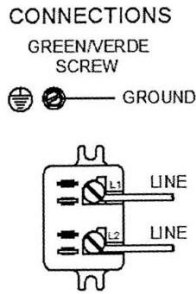

Figure 1
1. Disconnect or remove power to the equipment being serviced and allow four (4) minutes for the capacitors to discharge any residual voltage.
4. Disconnect the power cord from the connector on the control unit. Inspect the power cord for bent, damaged, or recessed wires and terminals [Figure 1].